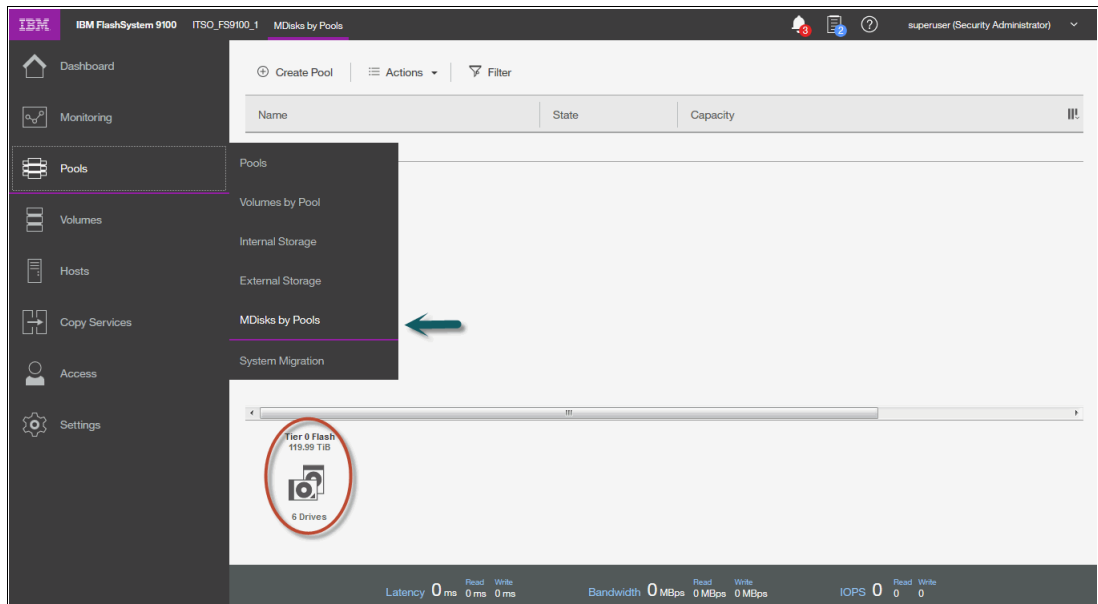

Figure 5-19 Select Pools → MDisks by Pools
5. Select **Pools** → **MDisks by Pools** to view the drives that are available for creation of MDisks and Storage Pools, as shown in Figure 5-19.